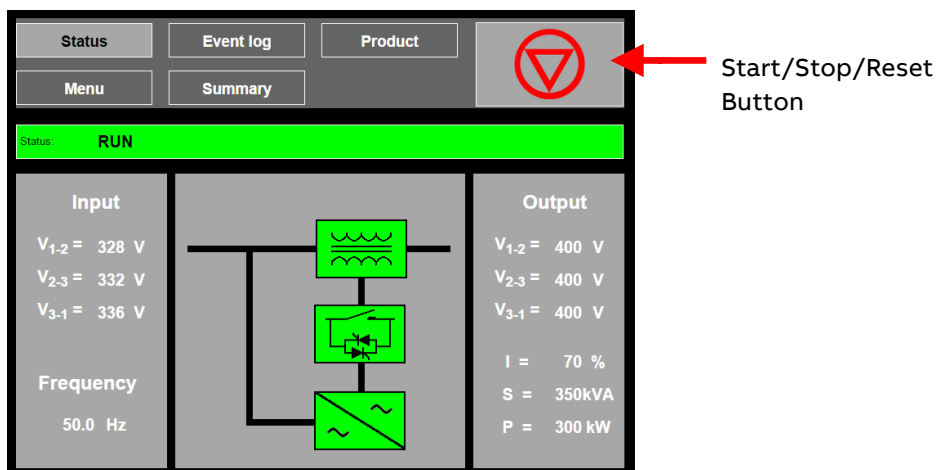

Figure 7-1: GDM Status Page
The Start (I) / Stop (O) /Reset button in the Navigation & Control Panel allows GDM control of the PCS100 AVC-20. When the PCS100 AVC-20 is stopped (Bypass) a green Start (I) button will show, and when running (RUN) a red Stop (∇) button will show. Pressing the Start (I)/ Stop (∇)/ Reset button followed by YES in the following confirmation screen will cause that action to be taken. Figure 7-1: GDM Status Page shows the status page when the PCS100 AVC-20 is running.